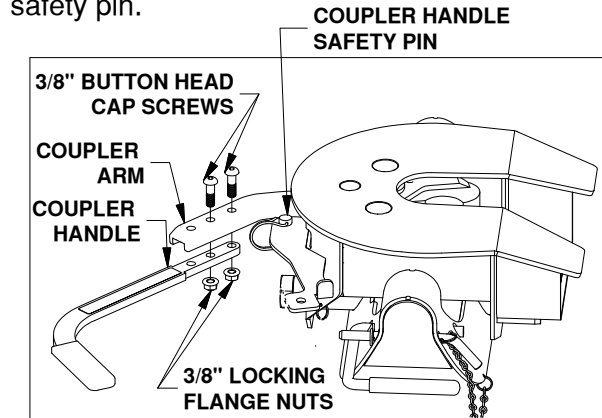

Figure D1: View looking down at side of coupler.
- Open coupler.** Locate the two 3/8" x 1-1/4" button head cap screws and the two 3/8" flanged lock nuts provided in a bolt bag. Pull out the coupler arm and pin it with the safety locking pin near the base of the arm, as shown in Figure D1.
- Secure handle.** Using the button cap screws and the lock nuts attach the coupler handle to the arm and tighten, see Figure D1. Pull out the coupler handle safety pin.